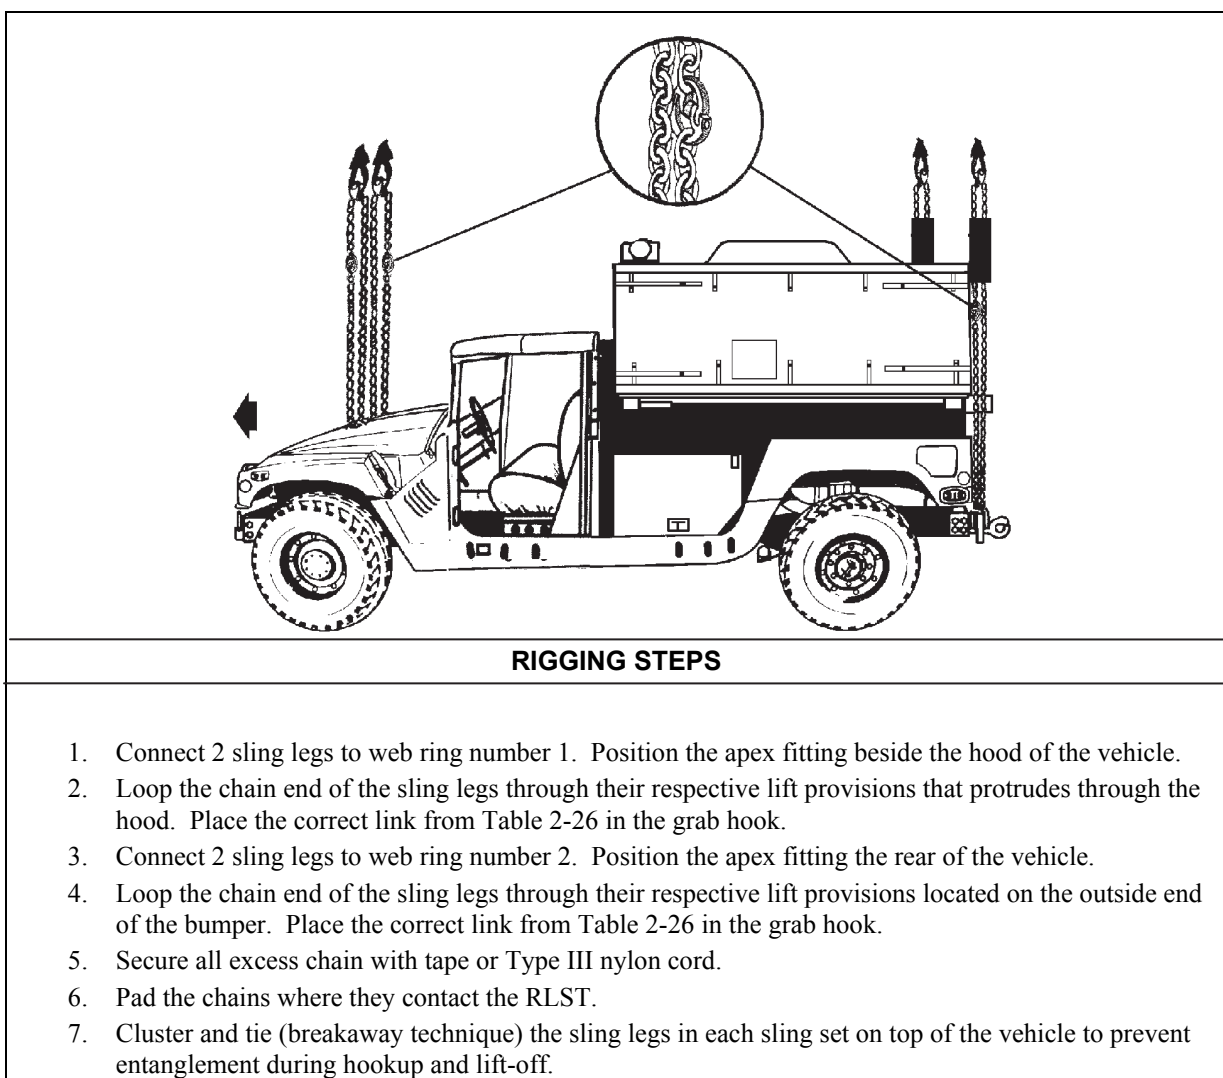

Figure 2-22. M1098 with Remote Landing Site Tower
- **Rigging.** Rig the load according to the steps in Figure 2-22.